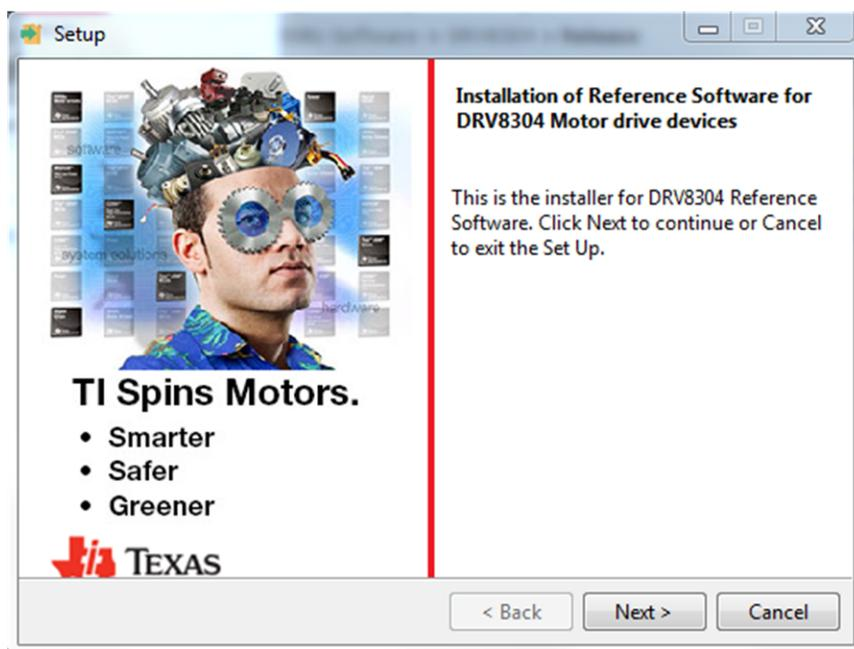

Figure 14. Setup Home Screen
Step 3. Click the *Next* button on the DRV8304 installer welcome screen (see Figure 14).